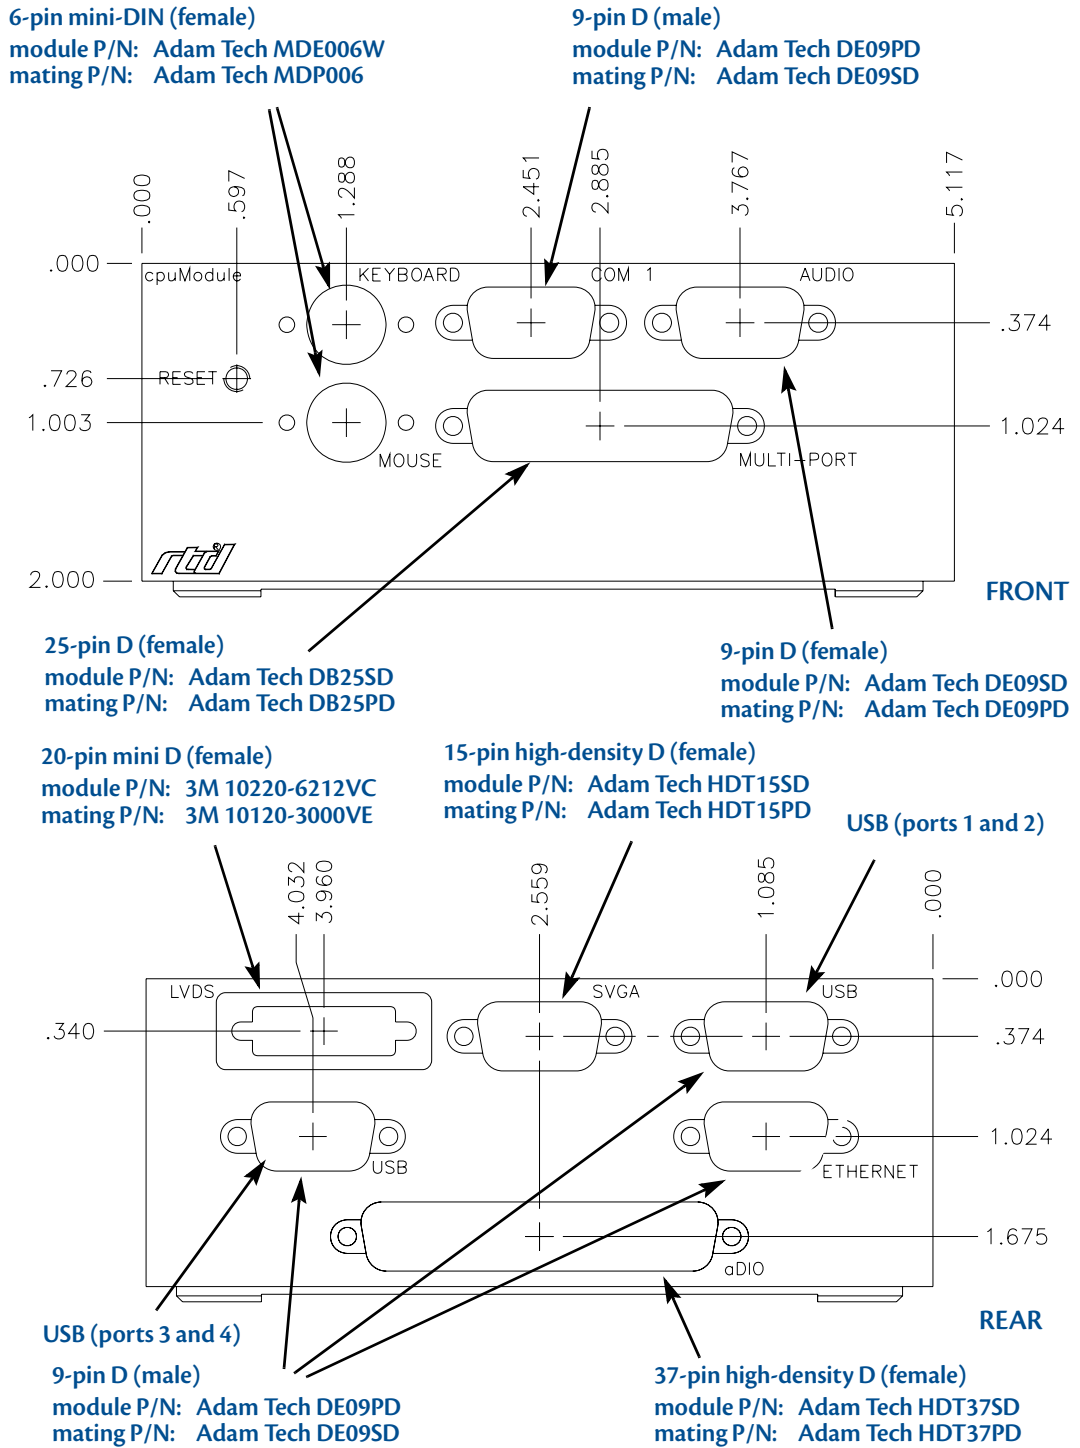

Figure 10 IDAN-CMX158886PX-BRG Connectors¹
1. Heatsink fins (not shown in Figure 10) extend 0.75 inches from the sides of the IDAN frame.